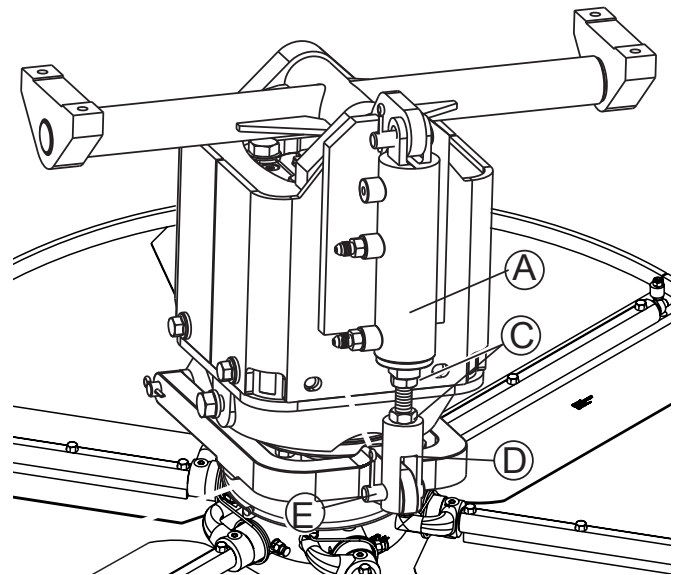

Figure 44. Blade Leading Edge Height Adjustment
3. Remove clevis pin (Item E, Figure 44). Loosen jam nuts (Item C, Figure 44) and adjust clevis (Item D, Figure 44) to cylinder (Item A, Figure 44) position, to raise or lower pitch as required.
4. Tighten jam nuts (Item C, Figure 44) and reinstall clevis pin (Item E, Figure 44).